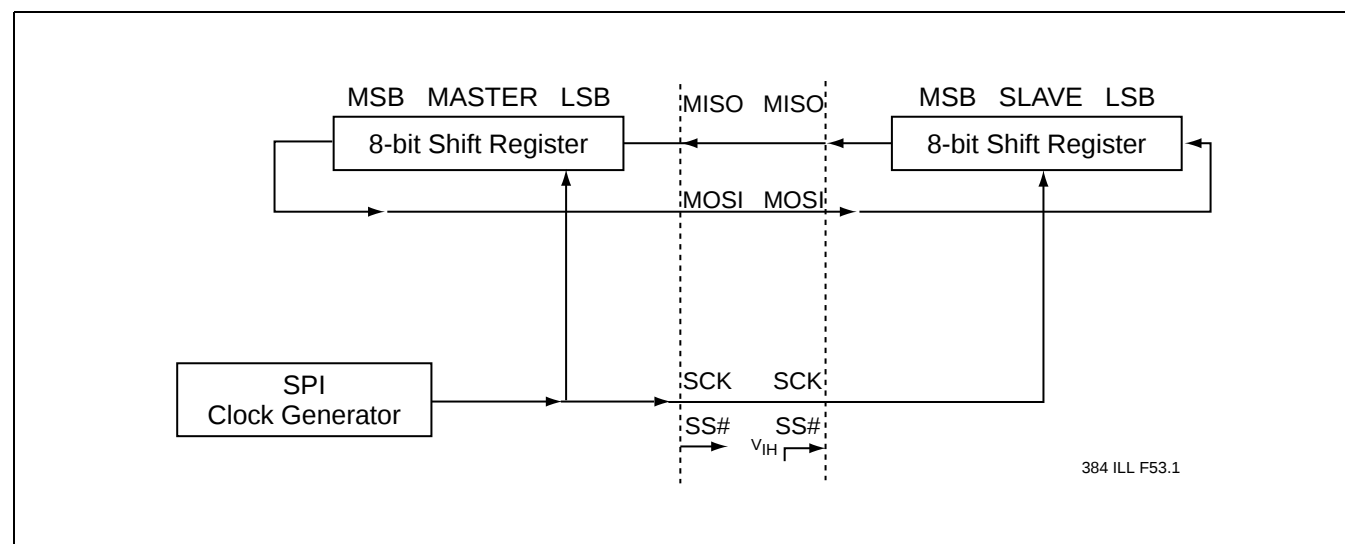

FIGURE 6-1: SPI MASTER-SLAVE INTERCONNECTION
Figure 6-1 shows the correspondence between master and slave SPI devices. The SCK pin is the clock output and input for the master and slave modes, respectively. The SPI clock generator will start following a write to the master device's SPI data register. The written data is then shifted out of the MOSI pin on the master device into the MOSI pin of the slave device. Following a complete transmission of one byte of data, the SPI clock generator is stopped and the SPIF flag is set. An SPI interrupt request will be generated if the SPI interrupt enable bit (SPIE) and the serial port interrupt enable bit (ES) are both set.